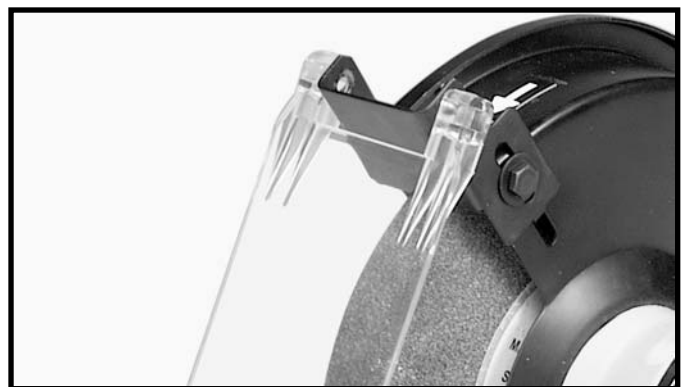

Fig. 6
1. Place the eye shield on the spark guard as shown in Fig. 6.